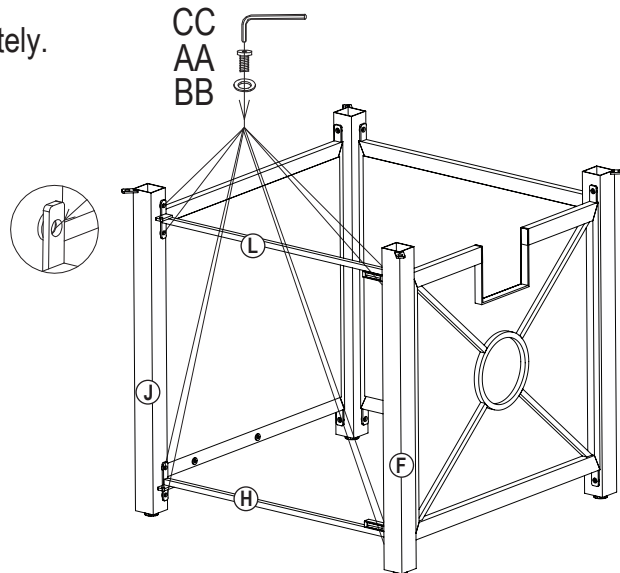

Figure 5
5. Attach upper beam (L) to front-left Leg (J) and front-right leg (F) with bolt (AA) and washer (BB) using the hex screw driver (CC). Attach bottom beam (L) to front-left leg (J) and front-right leg (F) with bolt (AA) and washer (BB) using hex screw driver (CC), (see Figure 5).